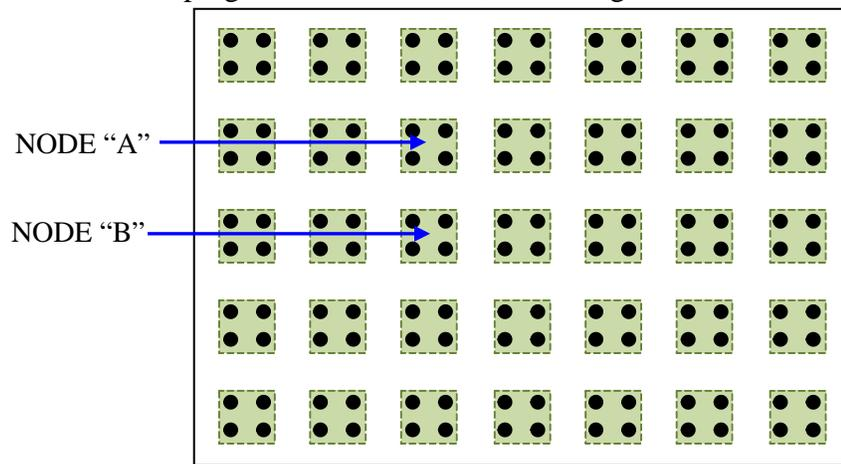

Figure 1: Quad Board
- Locate the Quad Board (Figure 1). The Quad Board will be used to construct circuits throughout the semester. Each of the 4 jacks on each “quad” are the same point electrically. You will use the connections to plug in circuit elements, the voltage source, the DMM and other devices.
- Choose two QUADS near the middle of the quad board to be “Node A” and “Node B” (as shown in Figure 1).